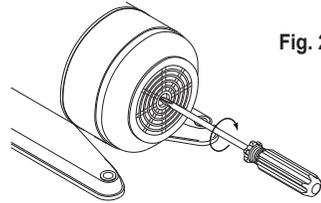

Fig. 2
3. For start up of the first operation or after long time inactivity, please place a screwdriver against the shaft at motor end and turn clockwise to see if rotor spins freely. (Fig. 2). If it is, you are free to run the pump.